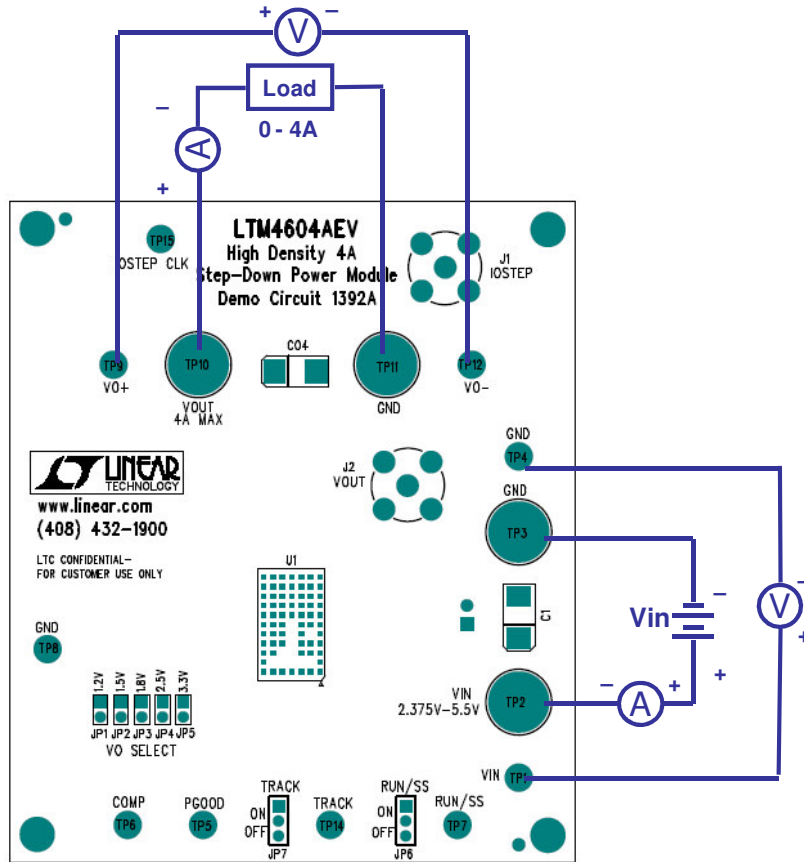

Figure 1 Test Setup of DC1392A
Demonstration circuit 1392A is easy to set up to evaluate the performance of the LTM4604AEV. Please refer to Figure 1 for proper measurement equipment setup and follow the procedure below:
2. With power off, connect the input power supply, load and meters as shown in Figure 1. Preset the load to 0A and V_{IN} supply to be less than 5.5V.